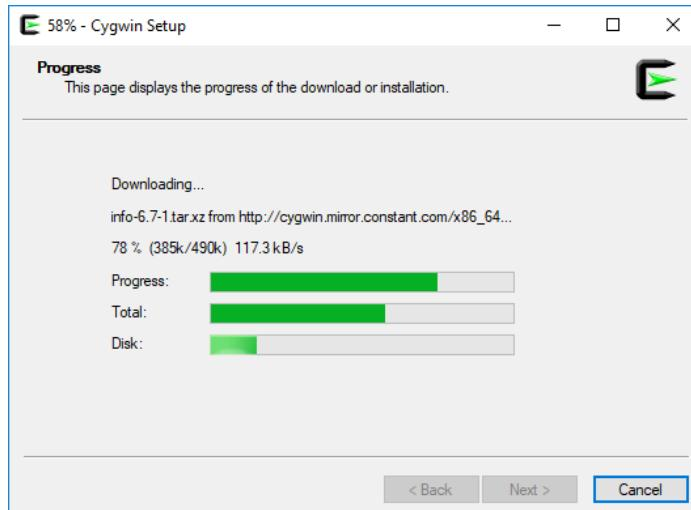

Figure 90. Cygwin setup
5. Once you have selected all the packages, click **Next** in the subsequent windows to include these packages in your Cygwin installation (the installation process, see Figure 90, may take several minutes).